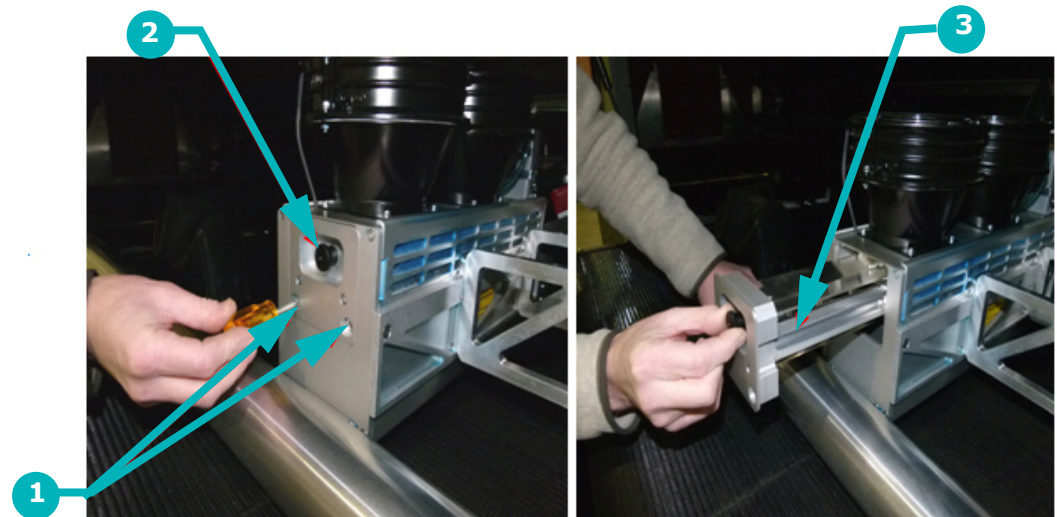

Figure 2-67: Removing the UV lamp housing
- C. Loosen the two captive screws on lamp housing end plate front, Figure 2-67, left.
- D. Grab end plate knob and slide UV bulb housing out of lamp housing, Figure 2-67, right.